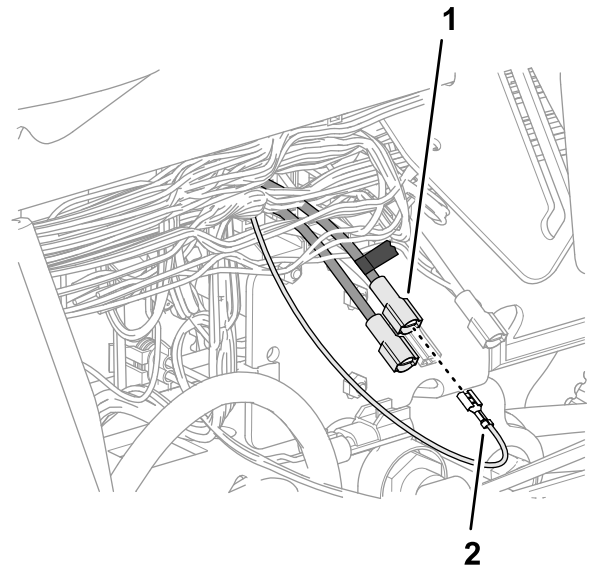

**Figure 191**
4. Use a piece of tape to mark the connector and wire that you identified in step 3 (Figure 191).